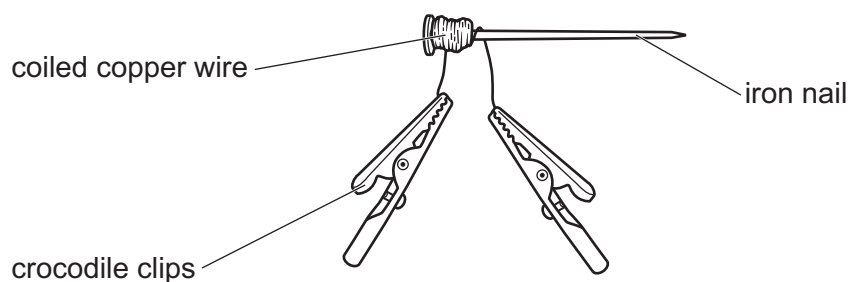

Fig. 2.2
2. A suitable electromagnet can be made using a 1 metre length of 26 SWG (0.457 mm diameter) enamelled copper wire coiled tightly around one end of a 7 cm iron nail as shown in Fig. 2.2.